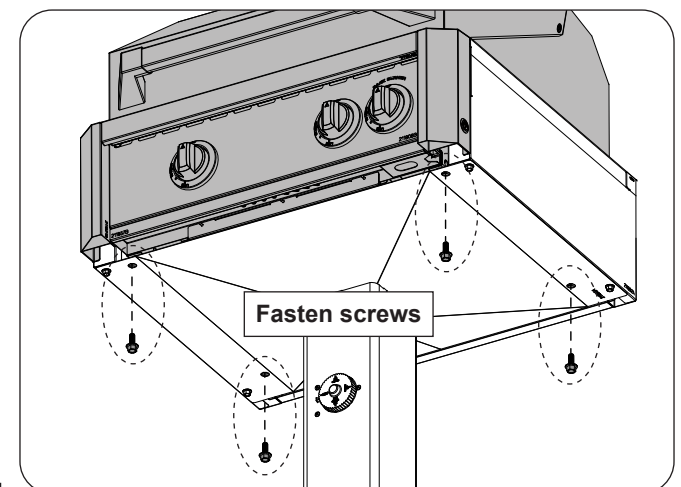

Fig. 19-3 Secure appliance to post base
3. Use the four 3/8" hex screws included with the grill installation hardware to fasten the appliance's front and rear legs from underneath the grill cavity housing and secure the grill to the post base. See Fig. 19-3. Tighten securely.